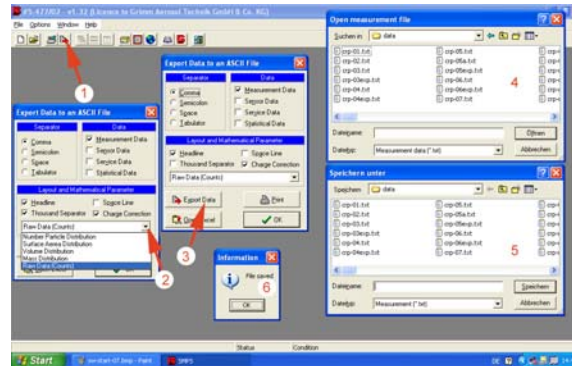

Fig.11: choose scan representation mode
- Activate EXPORT function (step 1 in figure 11);
- Define mode (step 2 in figure 11);
- Click onto the Export icon (step 3 in figure 11); make sure the 1000-separator is deactivated;
- Chose scan name and assign new name for the exported file (steps 4 & 5 in figure 11);
- Define Delimiters (step 2 in figure 11);
- Select the rows to be imported (step 3 in figure 11);
- Choose Data format (step 4 in figure 11);
- Define import location (step 5 in figure 11);